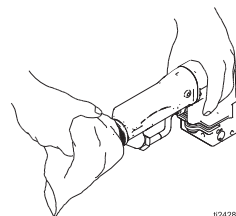

FIG. 18 Clean Gun Body
5. Dampen a soft cloth with solvent and wring out the excess. Wipe the exterior of the gun and shroud clean. See FIGURE 18.